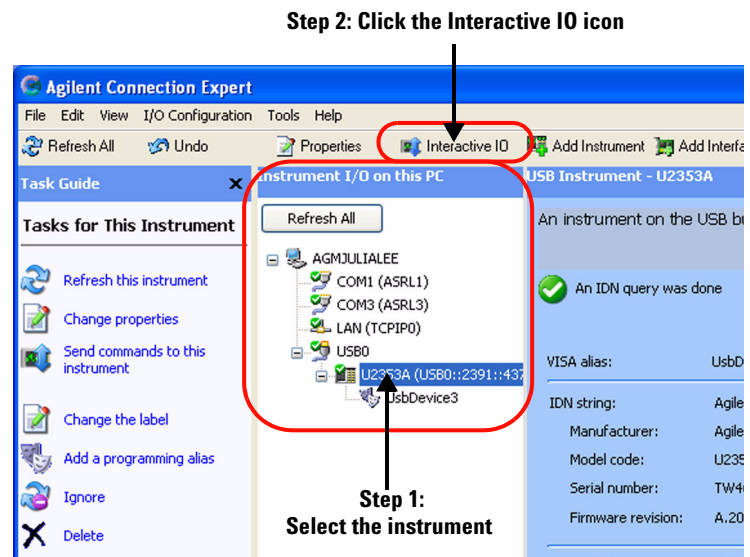

Figure 2-5 Launch the Interactive IO in Agilent Connection Expert
- 3 Connect the DAQ device to the PC with mini-B type USB cable. The connected DAQ device will be visible in the **Instrument I/O on this PC** panel as illustrated in Figure 2-5.
- 4 Select the DAQ device that you wish to send the SCPI commands to and then click the **Interactive IO** icon on the toolbar to launch the Agilent Interactive IO. See Figure 2-5.